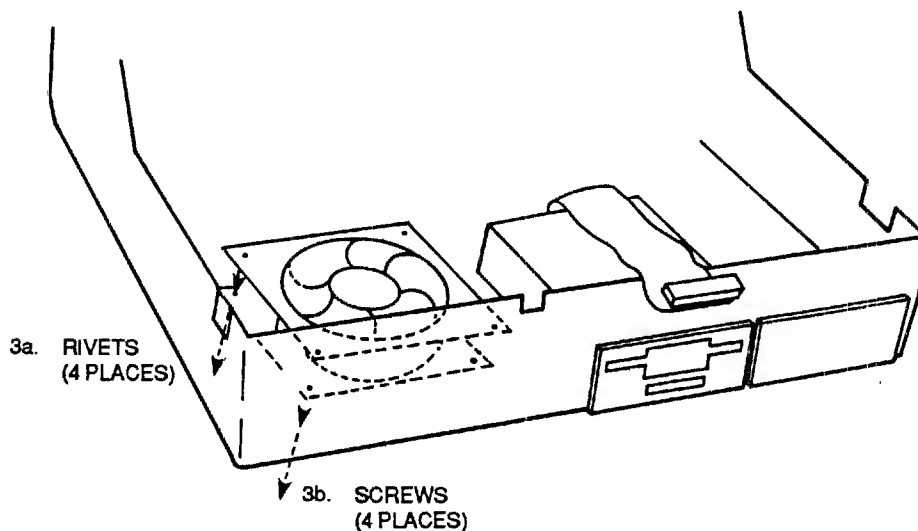

Figure 2-7. Removing the Fan Assembly
- a. If your UniSite fan assembly has plastic rivets, remove them as follows: using a slender (#1) screwdriver, push out the four rivets holding the fan assembly to the chassis (see figure 2-7). Push down with the screwdriver at the center of the rivet; when you have pushed it down about 1/8", it can be pulled through the chassis bottom.